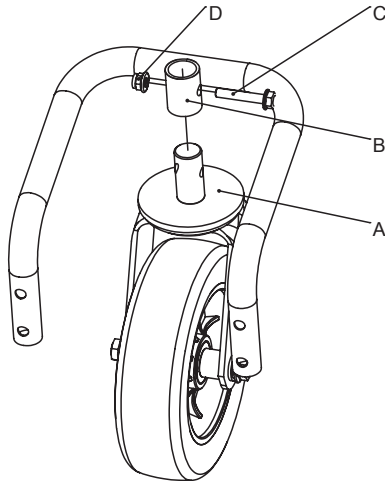

Figure 1
1. Insert the rotating shaft of the universal wheel frame (A) into the sleeve of the support frame (B).
2. Fix with M8x45 flange bolt (C) and M8 flange nut (D). (see Figure 1).